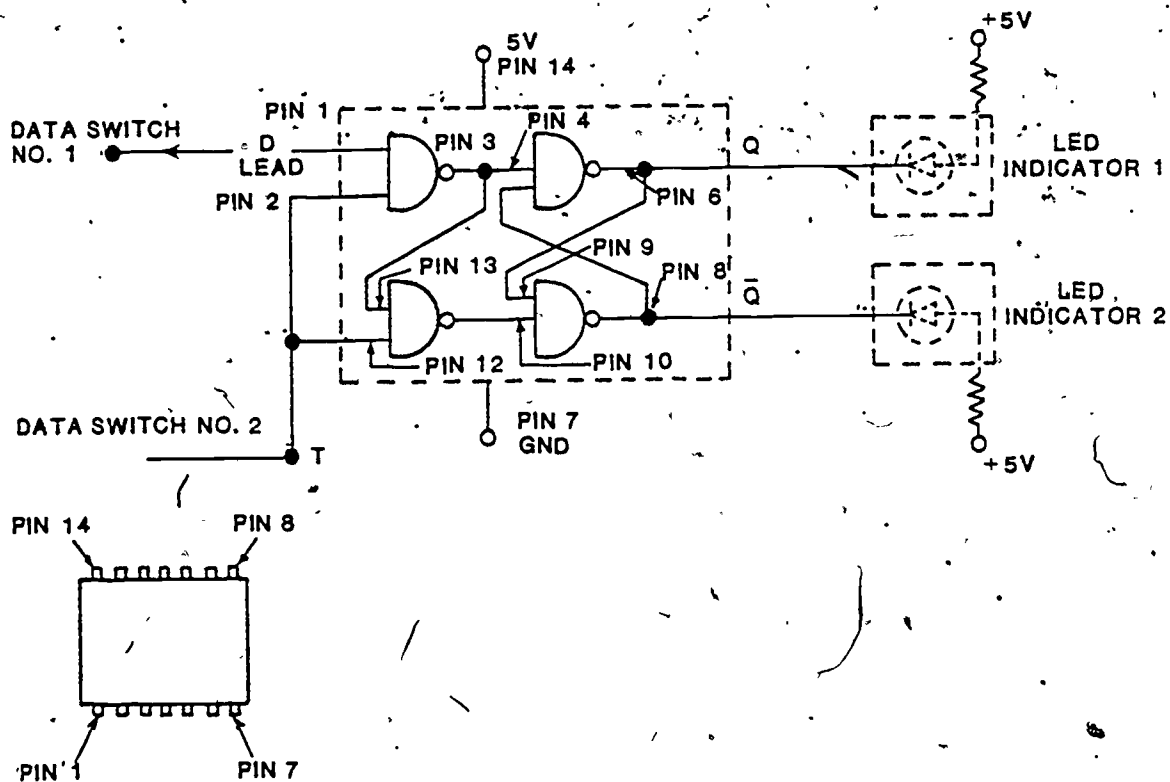

Figure 25. NAND Gate Flip-Flop.
1. Wire the circuit shown in Figure 25.